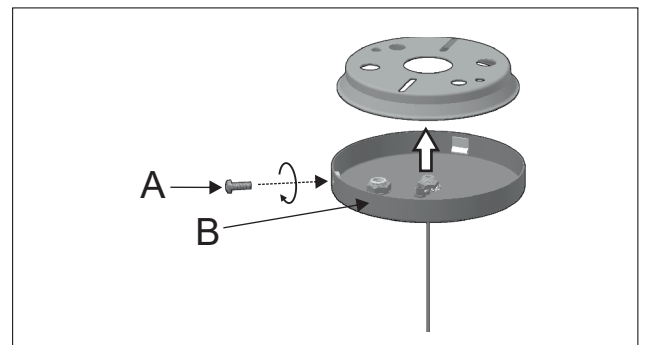

Figure 3
3 - Place the canopy (B) and fasten the side screw (A). Figure 3.